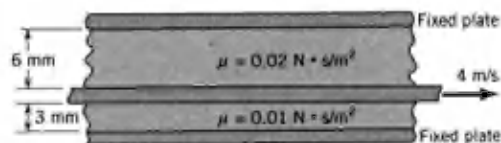

FIGURE P1.10R
1.10R (Viscosity) A large movable plate is located between two large fixed plates as shown in Fig. P1.10R. Two Newtonian fluids having the viscosities indicated are contained between the plates. Determine the magnitude and direction of the shearing stresses that act on the fixed walls when the moving plate has a velocity of 4 m/s as shown. Assume that the velocity distribution between the plates is linear.